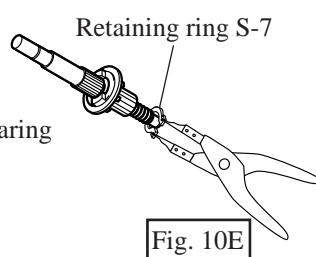

Fig. 10E
6. Disassemble retaining ring S-7 with retaining ring plier as illustrated in Fig. 10E.